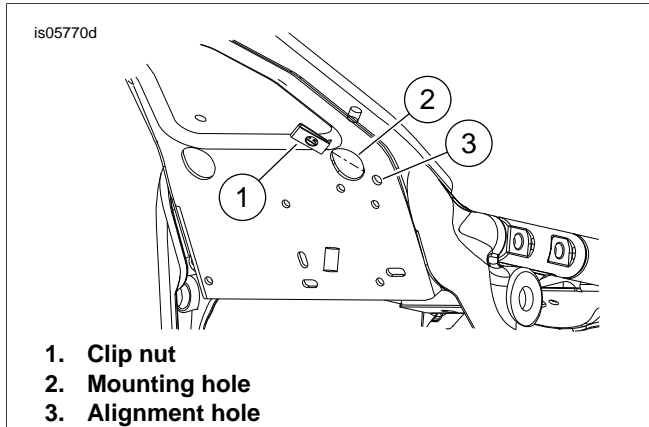

Figure 3. Install Clip Nut
1. See Figure 3. Install clip nut (1) in mounting hole (2). Align clip with alignment hole (3).